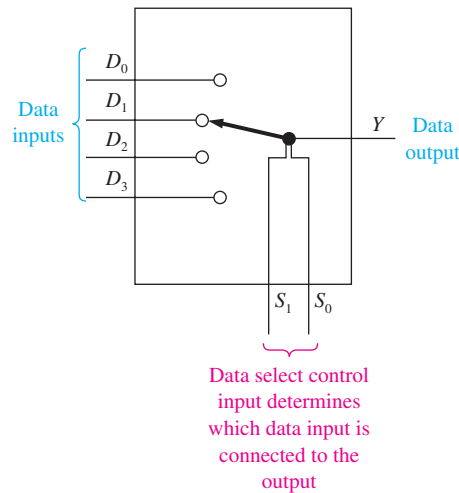

Figure 8–44 Functional diagram of a four-line multiplexer.
A **multiplexer** is a device capable of funneling several data lines into a single line for transmission to another point. The multiplexer has two or more digital input signals connected to its input. Control signals are also input to tell which data-input line to select for transmission (data selection). Figure 8–44 illustrates the function of a multiplexer.
The multiplexer is also known as a *data selector*. Figure 8–44 shows that the *data select control inputs* (S_1 , S_0) are responsible for determining which data input (D_0 to D_3) is selected to be transmitted to the data-output line (Y). The S_1 , S_0 inputs will be a binary code that corresponds to the data-input line that you want to select. If $S_1 = 0$, $S_0 = 0$, then D_0 is selected; if $S_1 = 0$, $S_0 = 1$, then D_1 is selected; and so on. Table 8–5 lists the codes for input data selection.